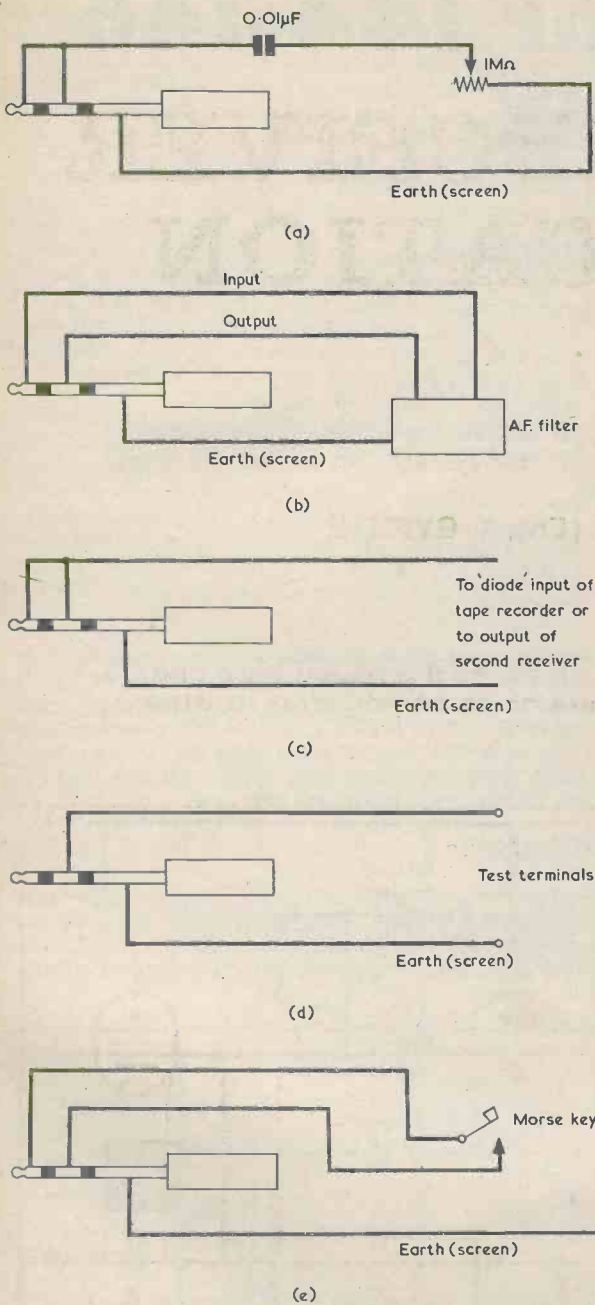

Fig. 3 (a) to (e). Illustrating the facilities offered by the modification. These are all described in the text
L3, R2 and C6 are mounted as a sub-assembly. First, bend L3 lead-outs in the manner illustrated in Fig. 3(a), and then solder R2 across these lead-outs as shown. Next solder C6 to the choke lead-outs, as illustrated in Figs. 3(a) and (b). Then insert the choke lead-outs into holes E6 and A6 and solder the assembly to the board. C6 is on the side of the choke that is remote from C1. Ensure that the lead-out at hole E6 does not touch the can of TR1.
Fig. 3 (a). Choke L3, R2 and C6 form a sub-assembly which is made up as shown here. After the sub-assembly has been completed, the choke leads are soldered to the board
A number of useful external units can now be plugged into the receiver, as illustrated in Figs. 3(a) to (e).
1. A simple top-cut tone control, as in Fig. 3(a).
2. An a.f. filter, either fixed or adjustable, as in Fig. 3(b).
3. The a.f. output at the jack socket can be applied to a tape recorder, whilst still allowing use of the receiver loudspeaker for monitoring. See Fig. 3(c). This will give better quality recording than is given by connecting the recorder to the receiver loudspeaker terminals.
4. The output of a second receiver monitoring another band or channel can be fed into the receiver for reproduction over the receiver loudspeaker. Fig. 3(c) applies here as well.
6. An a.f. amplifier feeding a loudspeaker is available for bench experiments, the testing of gramophone pick-ups or microphones, and for a.f. probing. In the last case a $0.01\mu\text{F}$ blocking capacitor should be inserted in the non-earthly test lead. See Fig. 3(d).
7. A morse key for c.w. practice can be plugged in, as in Fig. 3(e). The receiver b.f.o. should be turned on for this application, as with item 5.
Both the outputs from the r.f. stage and the oscillator are fed to the mixer in the manner shown in Fig. 3. The pairs A and B, and C and D, each consist of parallel wires about 1/8 in to 3/8 in. apart, and each having a run of about 2 1/2 in. They are earthed to a braiding of a piece of coaxial cable about 3/4 in. long, which takes their common connection up to the base of the mixer transistor, which is mounted under the i.f. chassis. The short length of coaxial cable provides screening and improves stability.
Fig. 3. Practical detail illustrating the manner in which the r.f. amplifier and oscillator are coupled to the mixer transistor in the i.f. section of the receiver